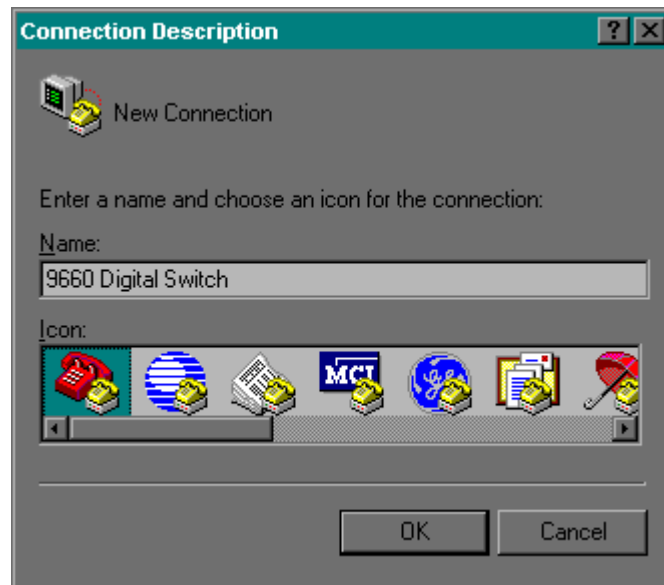

Figure 4-8. Connection Description Window.
3. Double click on the Hypertrm icon. This will bring you to the Connection Description window as shown in Figure 4-8.